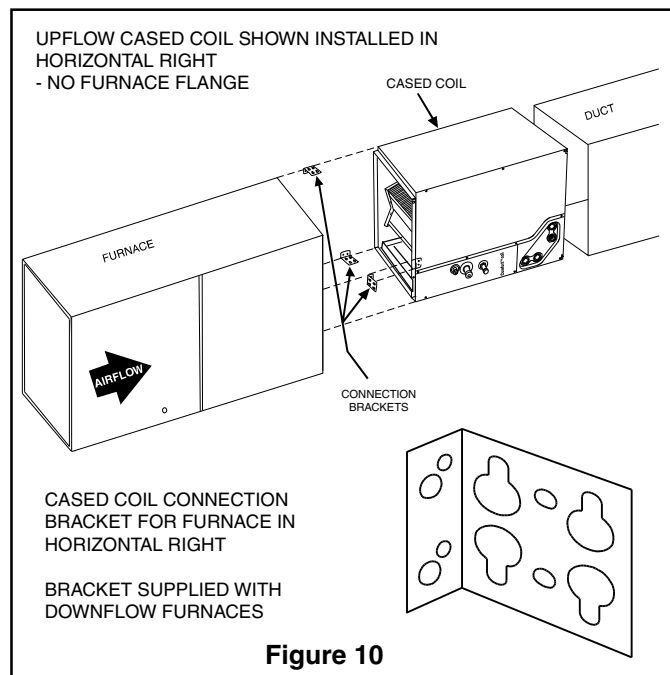

**Figure 9**
- d. For the 4PXCCD060 and 4PXCDD060 Coils Only, the (2) outer water diverter baffles should be removed for maximum efficiency. See Figure 9.